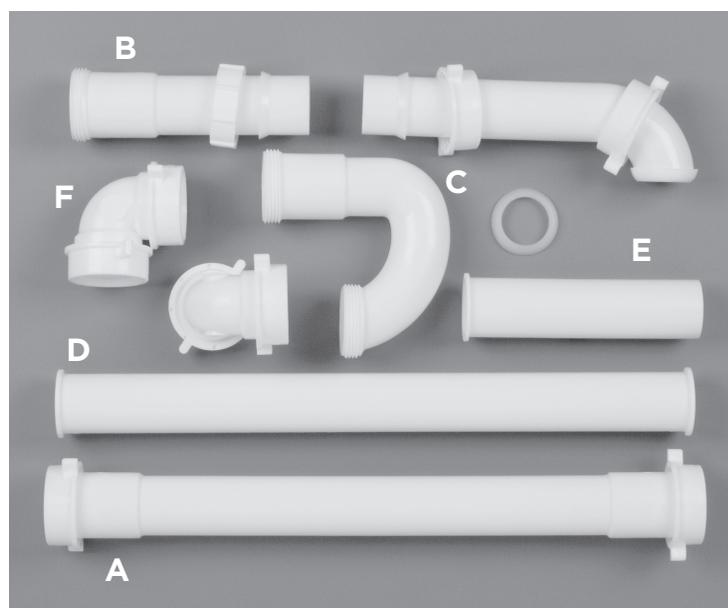

Figure 1 (May include more parts than shown)
- Gleco Trap HV Installation Kit (Figure 1) with:
- A- (1) 16" slip joint
- B- (1) 6" slip joint
- C- (1) P-trap
- D- (1) 16" tail extension
- E- (1) 6" tail extension
- F- (2) 90° elbow connectors